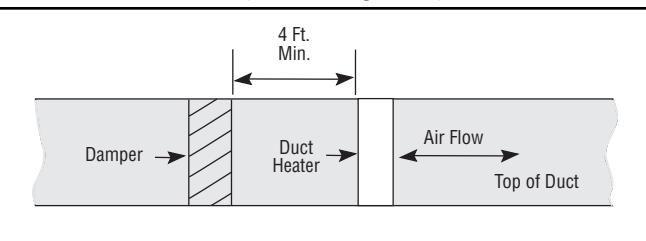

Figure 13
10. Installation with dampers or filters. Maintain at least 4' distance between duct heater and damper, filter frames, or other similar obstructions. (Refer to Figure 13).